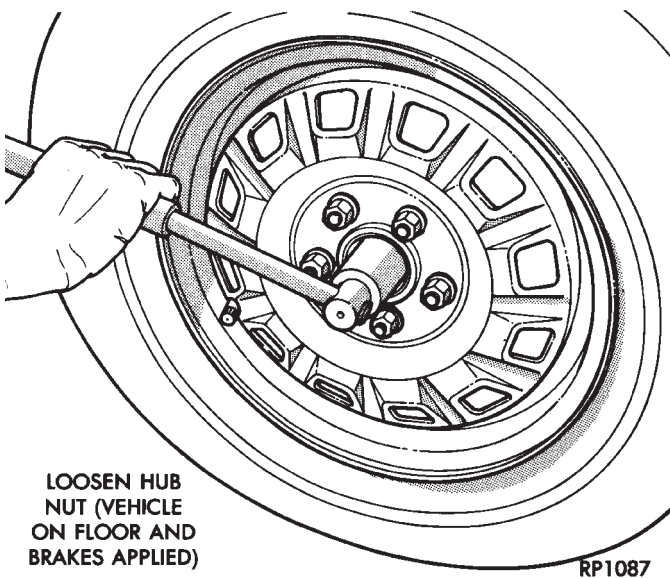

Fig. 4 Loosen Hub Nut
(2) Loosen hub nut while the vehicle is on the floor with the brakes applied (Fig. 4). **The hub and drive-shaft are splined together through the knuckle (bearing assembly) and retained by the hub nut.**